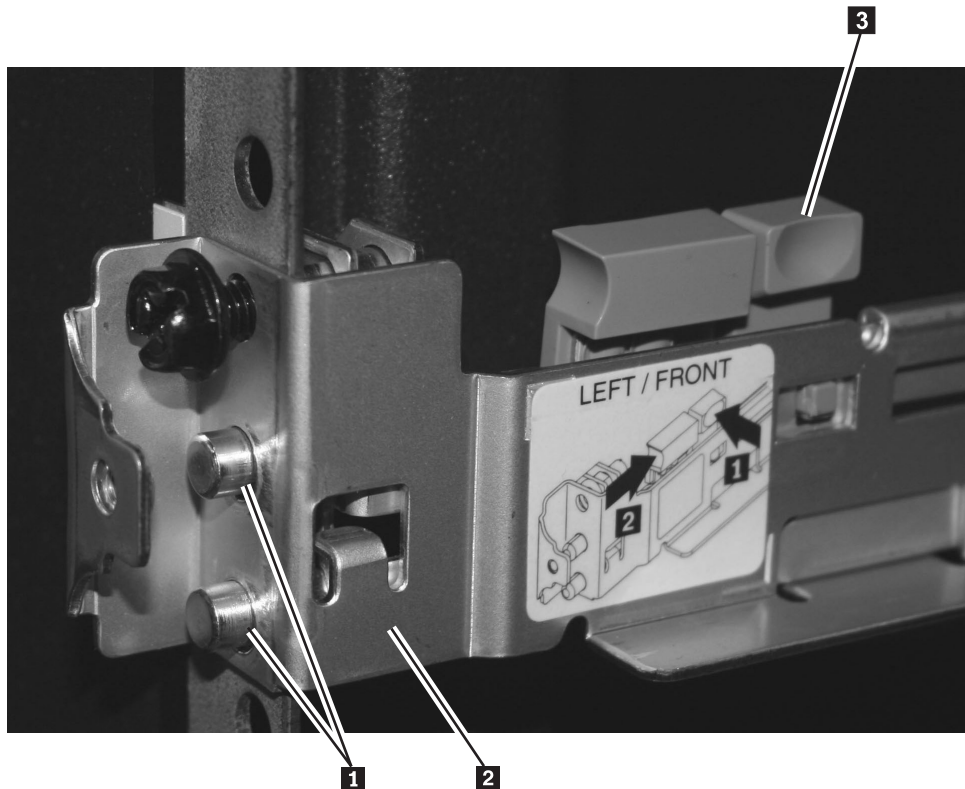

Figure 23. Aligning the pins on the left front support rail for the SAN Volume Controller 2145-8A4 with the front mounting flange
- a. Start from the front and align the pins (**1** in Figure 23 on page 26) on the front rail-locking carrier with the holes on the rack mounting flange **2**.
- b. Release the rail-locking latch by pushing the smaller blue tab **3** away from the rail. The pins spring into the closed position. Ensure that the pins go fully through the holes in the mounting flange, as shown in Figure 23.